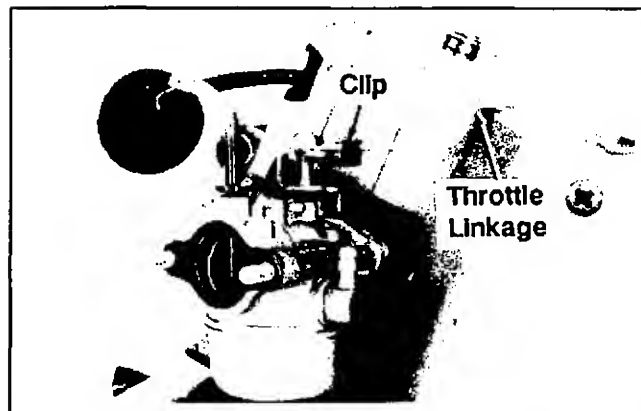

Figure 11-30. Installing Carburetor.
1. Install new gasket and carburetor onto intake manifold studs. See Figure 11-30.